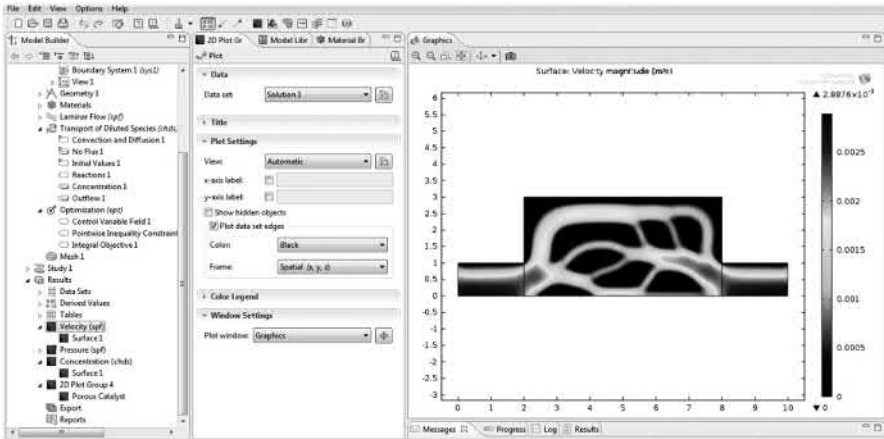

FIGURE 6.10 Velocity in the reactor after optimization.
- With the *Model Builder*, right click on *Study 1* option and choose *Show Default Solver*. In the *Stationary 1* node of *Optimization Solver 1*, change the *Relative tolerance* to  $1e-6$ . Click on the *Compute (=)* button. The velocity in the reactor after optimization should resemble that in Figure 6.10.